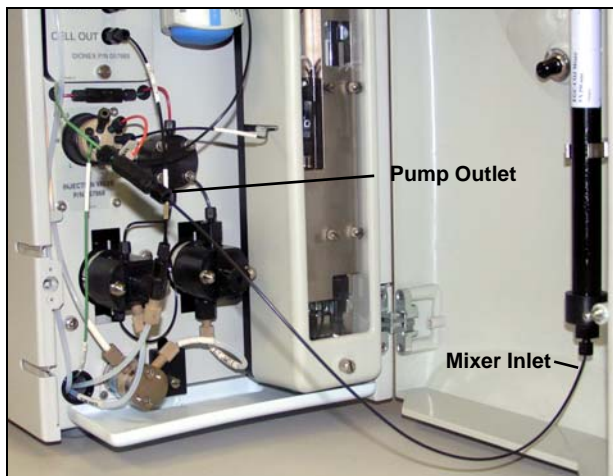

Figure 76. Pump Outlet Connected to Mixer Inlet for Mixer Hydration
3. Connect the pump outlet to the mixer inlet (see Figure 76).